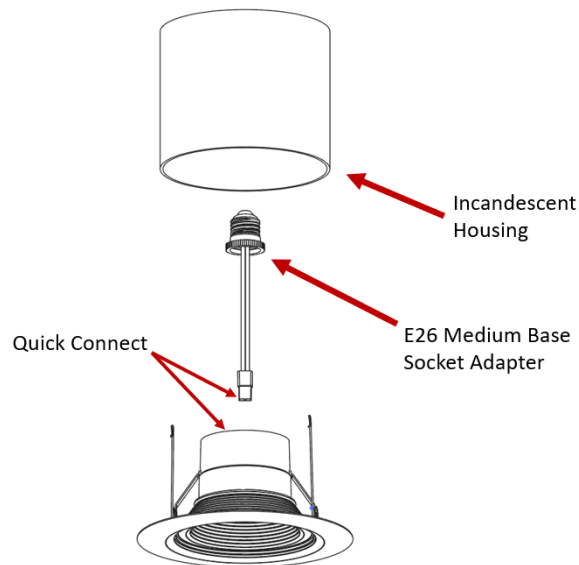

Figure 2
- I. **Installation into existing housings with medium base sockets:** Screw the medium base socket adaptor into the socket in the recessed housing. Plug the connector from the adapter into the mating orange connector on top of the module's trim. Push firmly to ensure connectors are securely fastened (see Figure 2). **DO NOT LET THE MODULE HANG UNSUPPORTED BY THE ORANGE QUICK CONNECTOR!**